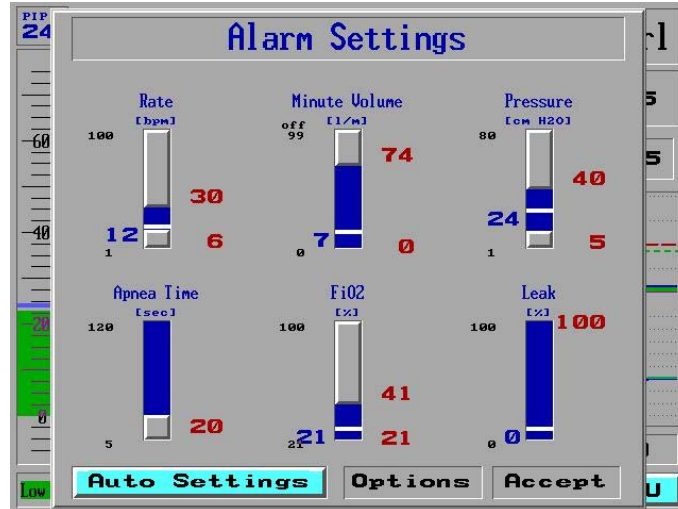

Figure 140: The Auto Settings Selected on the Alarm Settings Screen
3. In the **Alarm Settings** screen, dial the Control Knob until **Auto Settings** is selected (Figure 140).